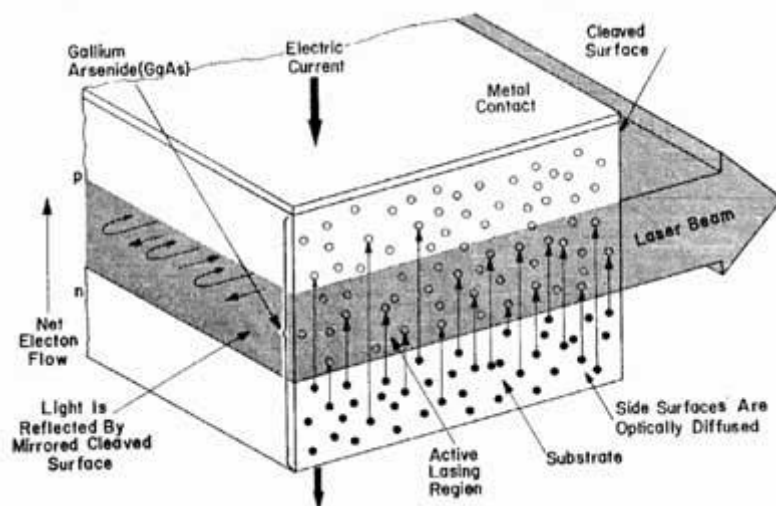

Fig. 17
(57) Figure 17 gives the construction of a semiconductor laser. The laser diode is a rectangular-shaped crystal of gallium arsenide that contains a pn junction. The entire device is about the size of a grain of sand. The end faces of the laser diode are "cleaved" along the crystal planes to form parallel reflection surfaces that act as the mirrors of the feedback mechanism. Current flow across the junction is the excitation mechanism. Semiconductor lasers usually have outputs in the infrared wavelength range, although some models that emit in the visible region are available.